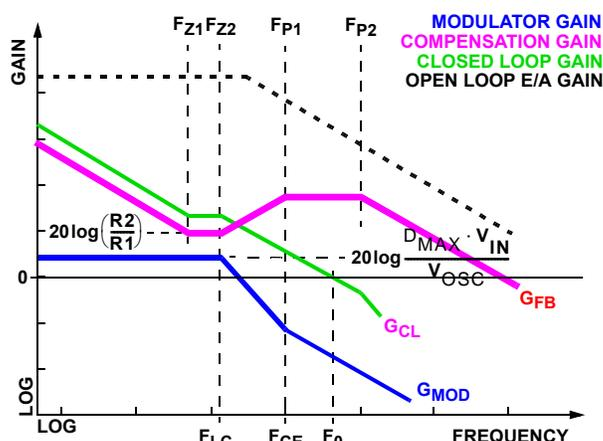

FIGURE 8. ASYMPTOTIC BODE PLOT OF CONVERTER GAIN
Figure 8 shows an asymptotic plot of the DC/DC converter's gain vs. frequency. The actual Modulator Gain has a high gain peak dependent on the quality factor (Q) of the output filter, which is not shown. Using the above guidelines should yield a compensation gain similar to the curve plotted. The open loop error amplifier gain bounds the compensation gain. Check the
compensation gain at  $F_{P2}$  against the capabilities of the error amplifier. The closed loop gain,  $G_{CL}$ , is constructed on the log-log graph of Figure 8 by adding the modulator gain,  $G_{MOD}$  (in dB), to the feedback compensation gain,  $G_{FB}$  (in dB). This is equivalent to multiplying the modulator transfer function and the compensation transfer function and then plotting the resulting gain.